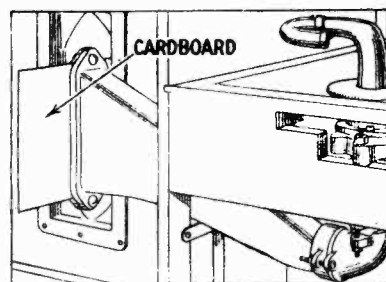

Fig. 10
- Loosen the horn elbow as shown in Fig. 10.